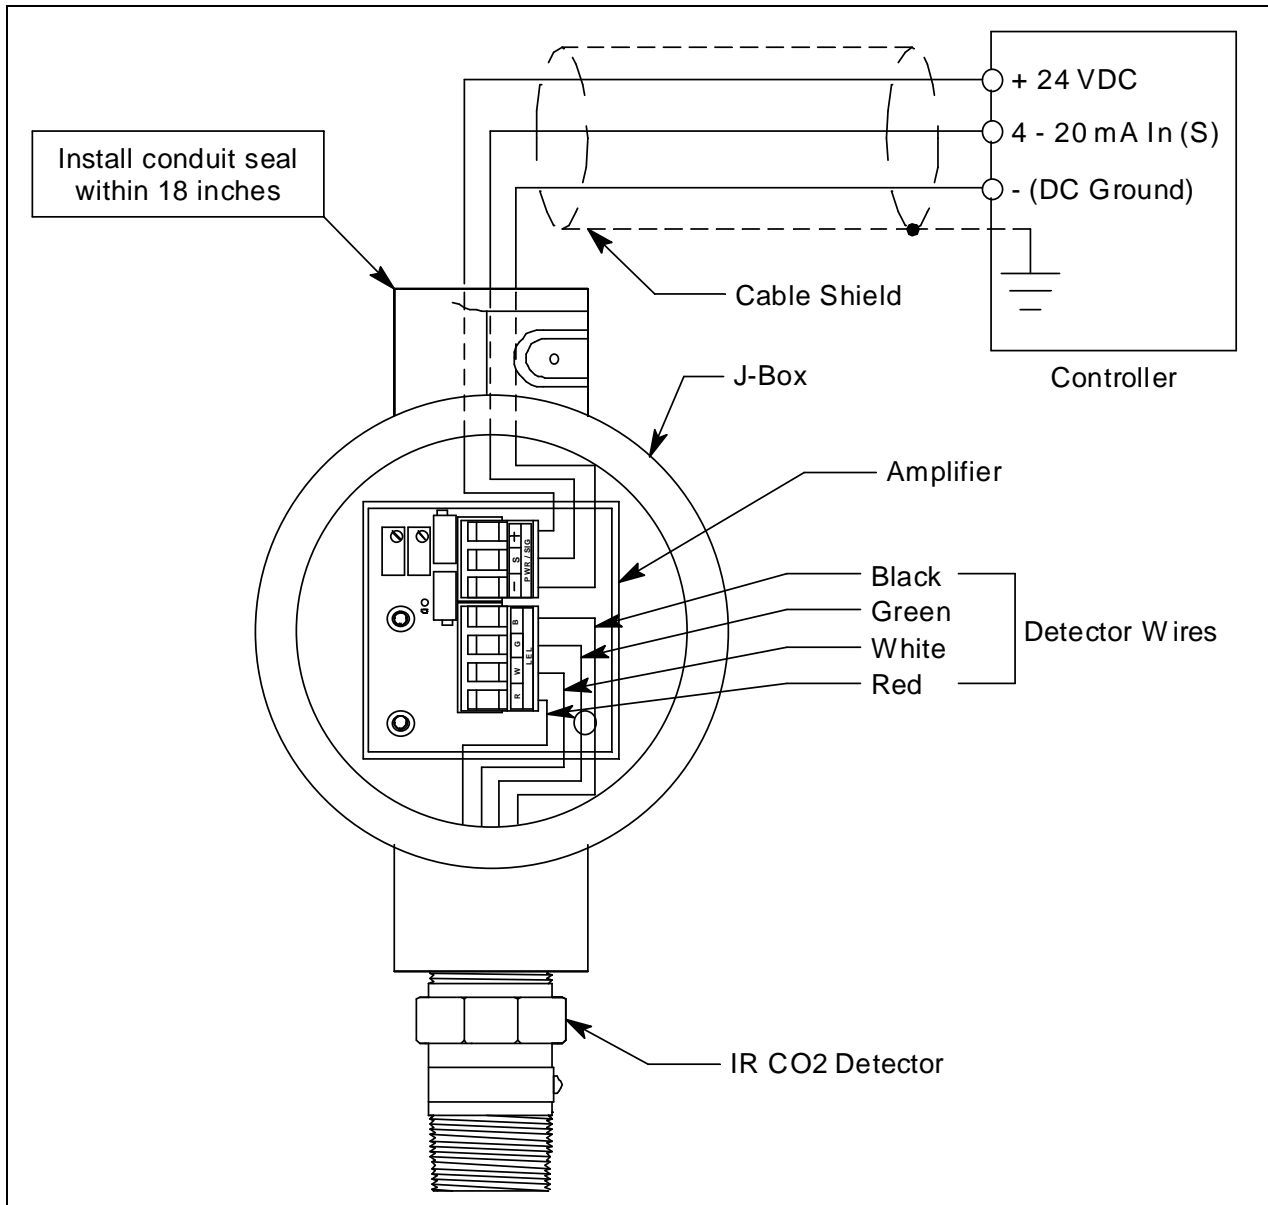

Figure 3: Wiring the CO₂ Transmitter to a Controller
4. The detector leads are factory wired. Verify that the detector leads are wired to the amplifier's detector terminal strip as shown in Figure 3.
7. Pull out the controller terminal strip, and connect the three wires to the terminal strip as follows (see Figure 3).
11. Connect the wires to the applicable detector/transmitter terminal strip at the controller as shown in Figure 3.
8. Connect the detector leads to the detector terminal strip as shown in Table 4 below and Figure 3 on page 11 of this manual.
9. Install the detector and controller terminals strips into their sockets on the new amplifier as shown in Figure 3 on page 11 of this manual. If controller leads or detector leads were removed during this procedure, refer to Table 5 and Table 6 below.